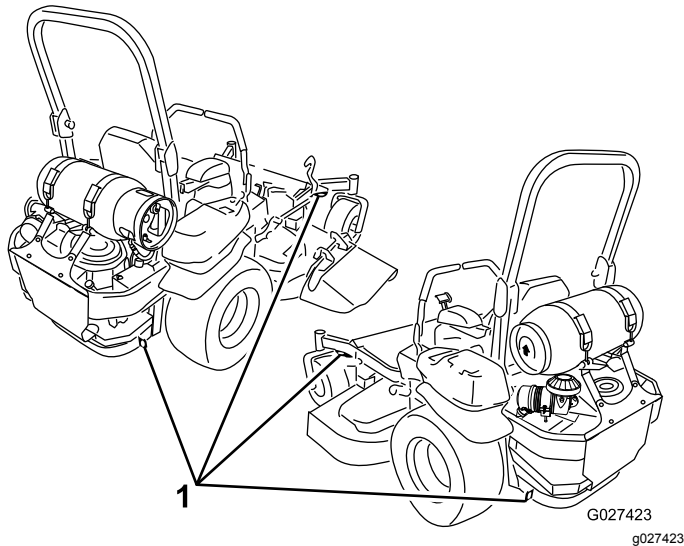

Figure 37
- Use the metal tie-down loops on the machine to securely fasten the machine to the trailer or truck with straps, chains, cable, or ropes (Figure 37).